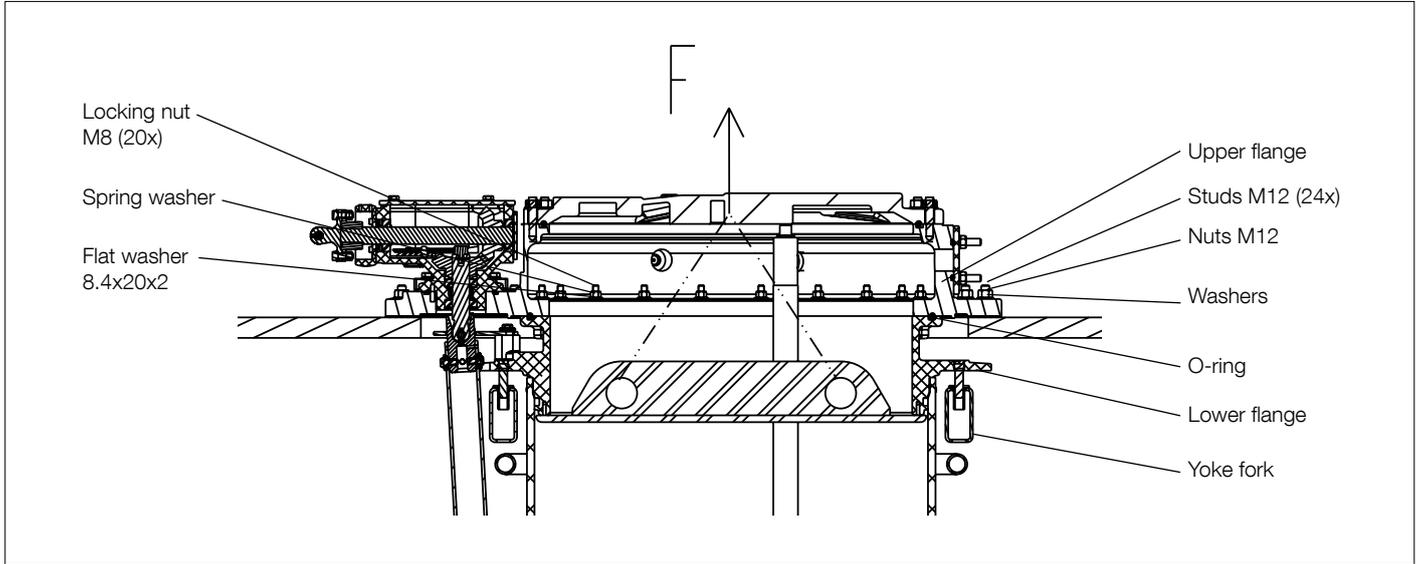

Fig. 16.
4. Place the upper flange over the opening in the transformer cover. Turn the upper flange so that the flange for the bevel gear is aligned with the drive shaft. The screws in the lower flange must fit into the holes in the upper flange; see Fig. 16.
8. Insert 24 studs; see Fig. 16, through holes in the upper flange, down into the threaded holes in the flange of the transformer cover. If the studs do not fit, the position of the tap-changer must be adjusted, which may require lifting. Lift by the lifting eyes as shown in Fig. 4. After mounting the studs, remove the lifting device and tighten the nuts.